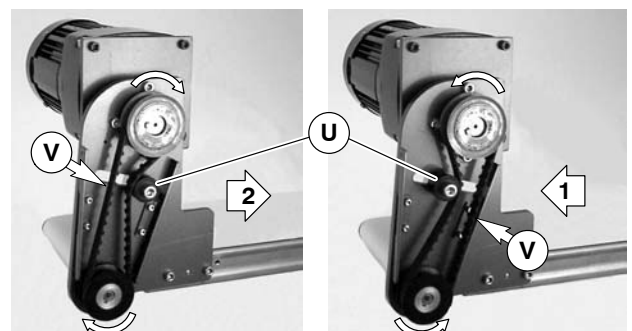

Figure 12
8. Depending on direction of conveyor belt travel (1 or 2 of Figure 12), position belt tensioner (U) as shown. Tension belt to obtain 0.125" (3 mm) deflection for 1.0 lb (456 grams) of force at belt mid-point (V). Tighten tensioner screw to 103 in-lb (12 N-m).
3. Depending on direction of conveyor belt travel (1 or 2 of Figure 12), position belt tensioner (U) as shown. Tension belt to obtain 0.125" (3 mm) deflection for 1.0 lb (456 grams) of force at belt mid-point (V). Tighten tensioner screw to 103 in-lb (12 N-m).
5. Depending on conveyor belt travel (direction 1 or 2), locate timing belt tensioner (U of Figure 12) as shown. Tension timing belt to obtain 0.125" (3 mm) deflection for 1.0 lb (456 grams) of force at timing belt mid-point (V). Tighten tensioner screw to 103 in-lb (12 N-m).